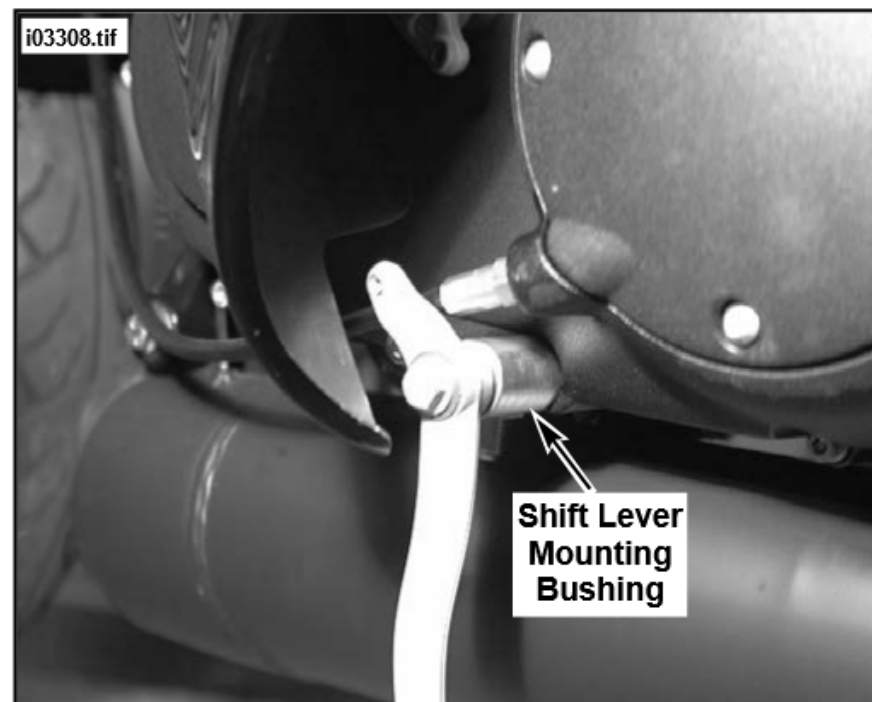

Figure 4. Shift Lever Assembly Installation (S3T Thunderbolt Shown)
- See Figure 4. Apply Loctite 243 (Blue) to threaded end of bolt and install assembled shift lever bolt as shown to lower crankcase. Tighten to 27-29 ft-lbs (36.6-39.3 Nm).